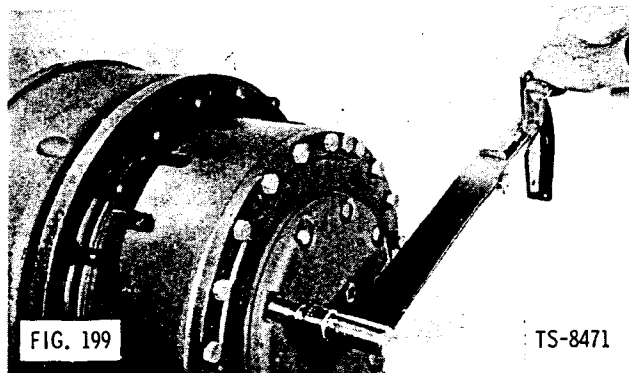

FIG. 199
41. Install cap-to-carrier "O" ring seal in groove in sun gear thrust cap assembly. Install thrust cap on planet carrier (Fig. 199). Make certain that "O" ring is properly posi-